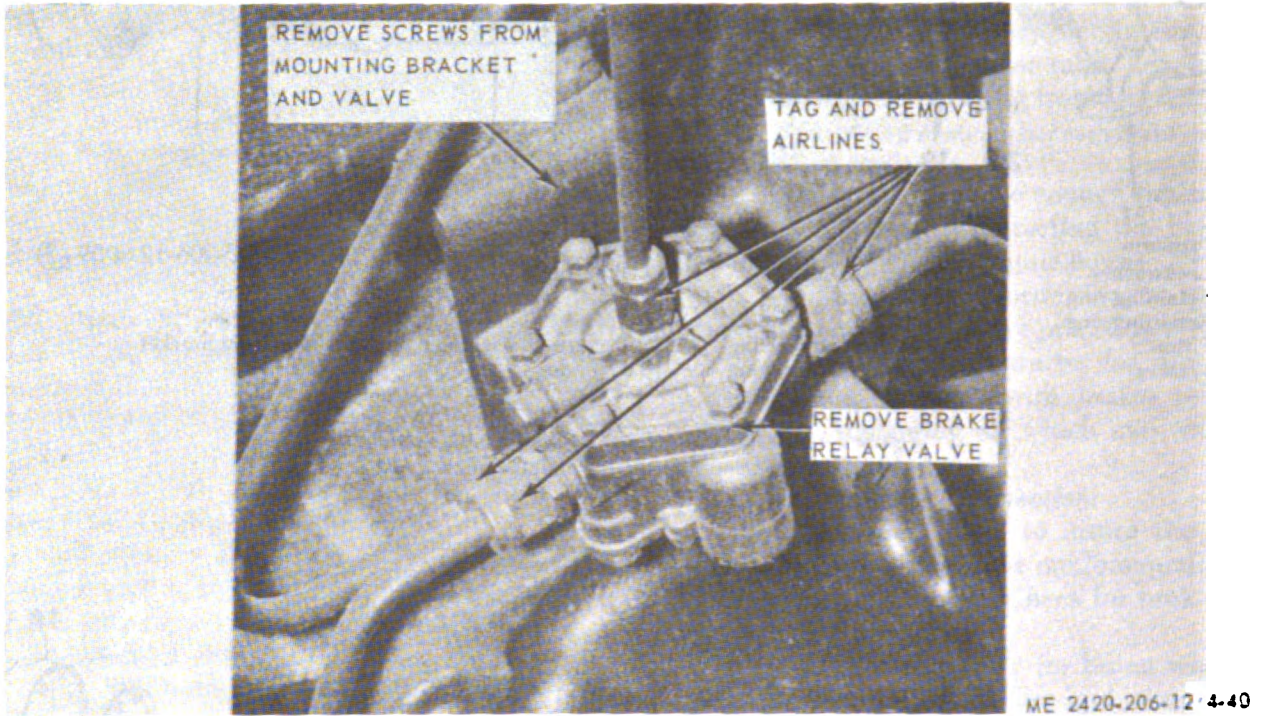

Figure 4-40. Brake relay air valve, removal and installation.
a. *Removal.* Remove brake relay air valve as illustrated in figure 4-40.
(1) Clean with a cloth and dry thoroughly.
(2) Inspect parts for cracks, breaks and other damage. Replace defective parts as necessary.
c. *Installation.* Install brake relay air valve as illustrated in figure 4-40.